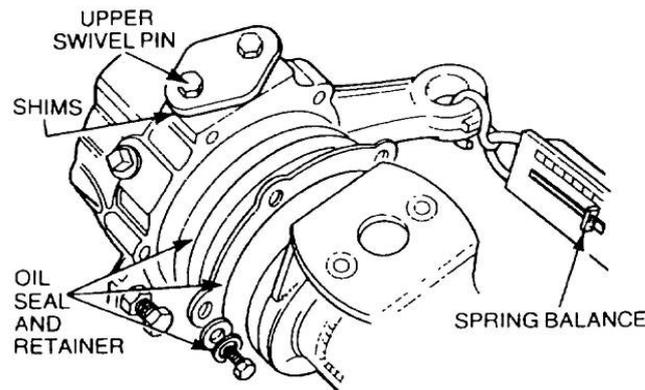

Figure 279 Measuring the Rotating Resistance
- Connect a spring balance to the steering arm ball joint eye and measure the resistance to rotation after the initial movement (Figure 279). The resistance must be 4.5 to 9 kg (10 to 20 lbs). Adjustment can be achieved by adding or subtracting shims installed under the upper swivel pin.